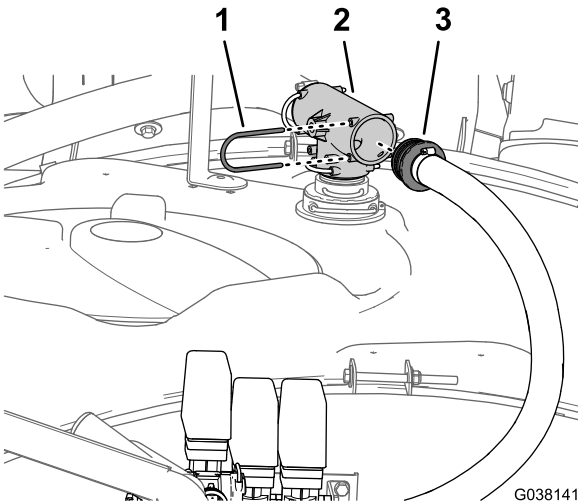

Figure 25
- At the top of the of the sprayer tank, remove the retainer that secures the straight barbed fitting of the bypass hose to the T-fitting (Figure 25).
- Remove the straight barbed fitting from the T-fitting (Figure 25).